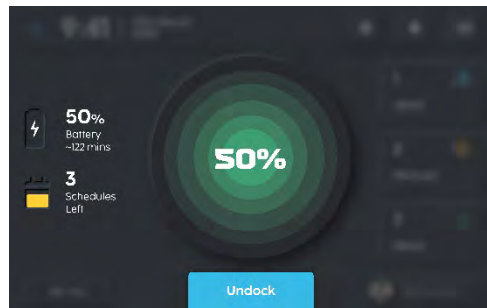

Fig. 8
4. Once the Docking process is completed the screen will turn green to reflect battery charge status (Fig 8).